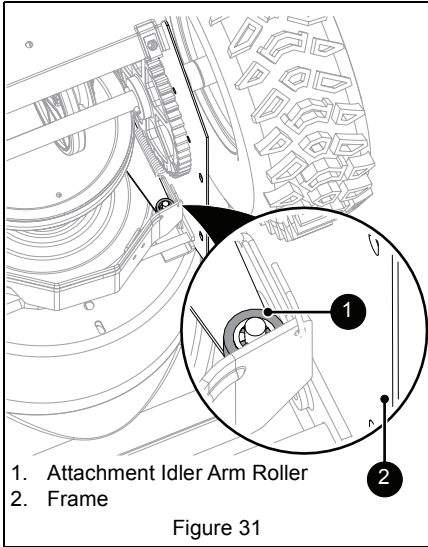

Figure 31
2. Engage attachment clutch and check the clearance between the frame and plastic roller on the lower end of the attachment idler arm. Roller should be 12.7 – 22.2 mm (1/2 – 7/8") from the frame. See Figure 31.